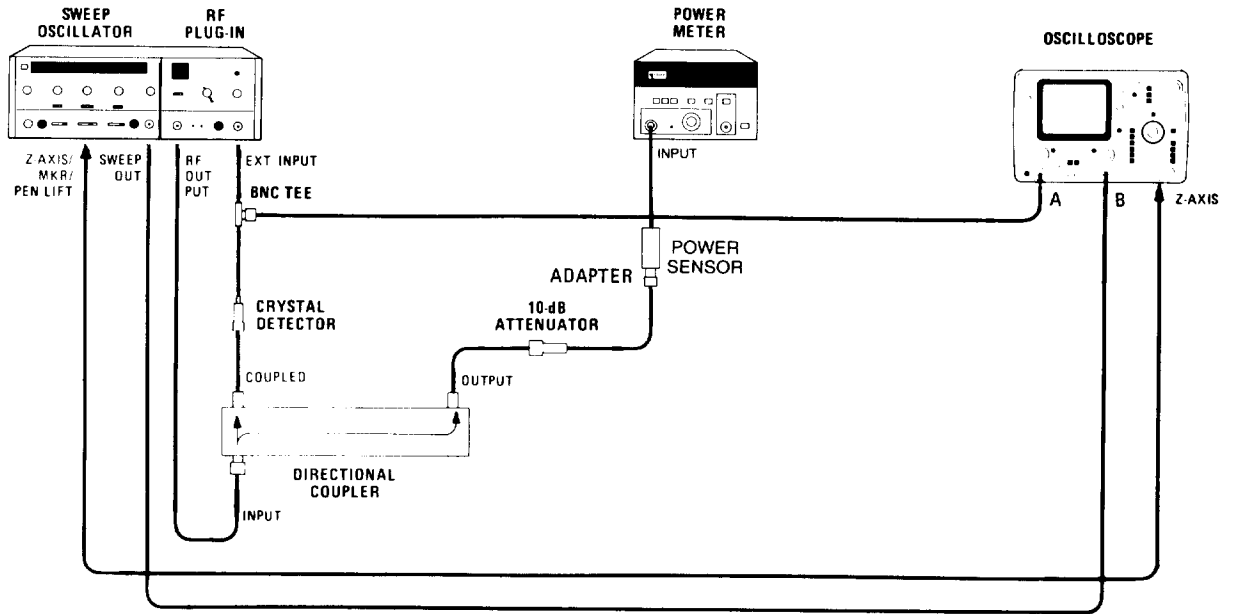

Figure 4-8. Crystal Detector Leveling Test Setup
1. Connect equipment as shown in Figure 4-8. Allow 30 minutes warm-up time.